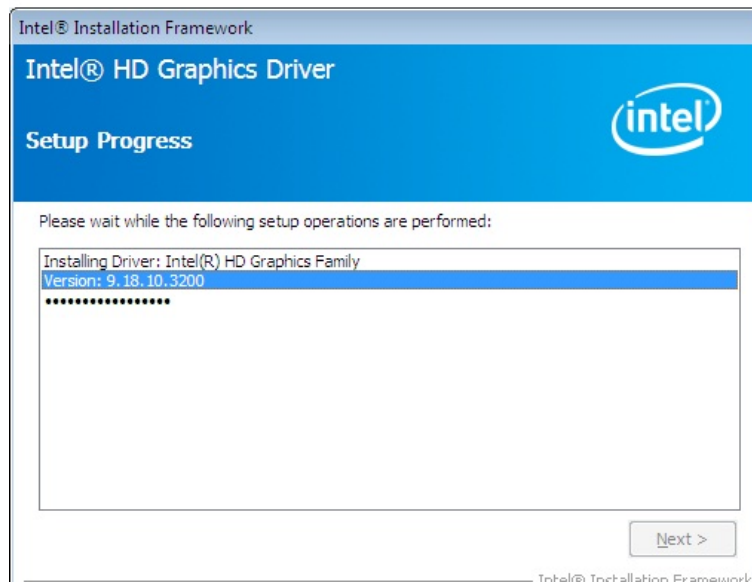

Figure 6-9: Graphics Driver Setup Operations
Step 9: **Setup Operations** are performed as shown in **Figure 6-9**.